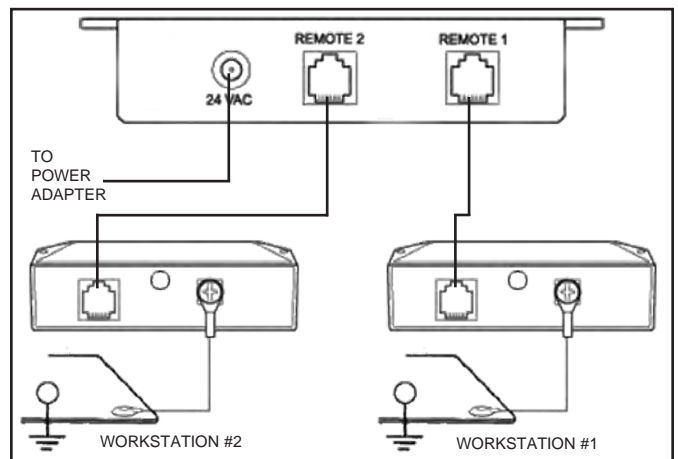

Figure 4. Wiring connection instructions for the 04621 monitor control unit.
Figure 4 shows the monitor control unit as it is viewed from the rear, with the work surface wiring in place.
1. Use the rear phone jack connections and connect the Satellite Remote Units to the base unit with the phone cables. See Figure 4 for wiring connection instructions.
4. Confirm that worksurface surface resistance is 1×10^7 ohms or less. Connect the ring terminal end of the worksurface cord included with the unit to the screw on the back of the satellite. Snap the other end to the worksurface grounding point as shown in Figures 4 and 5.